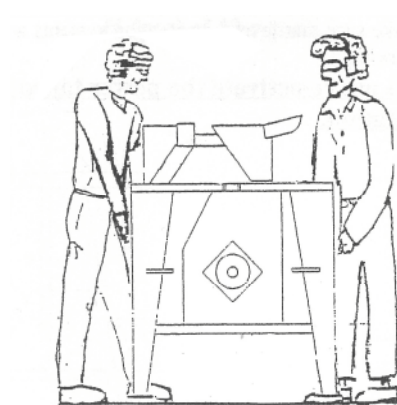

Fig.5
- By two operators; they have to hold it under the working table close to the machine supports (*refer fig 5*).